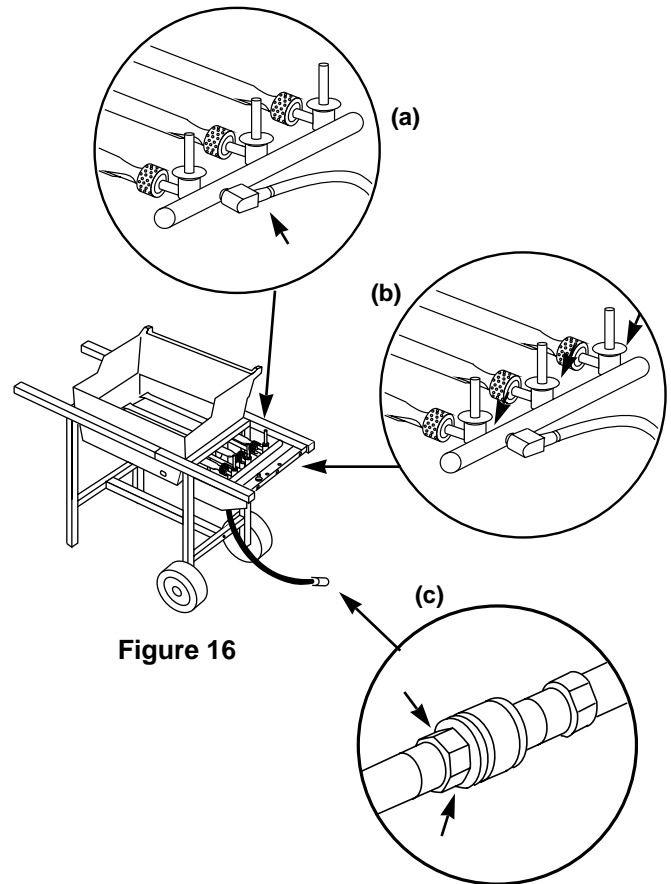

Figure 16
a) Hose to manifold connection. Figure 16 (a).
⚠WARNING: If there is a leak at the hose to manifold connection, Figure 16 (a), retighten the hose fitting with a wrench and recheck for leaks with soap and water solution.
b) Valves to manifold connections. Figure 16 (b).
c) The hose to quick disconnect connection. Figure 16 (c).